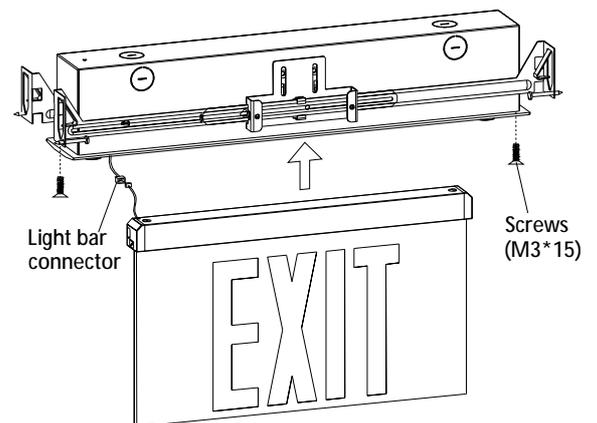

Fig 7
7. Assembly trim plate back use M3\*15mm screws.(see Fig 7 or 8)